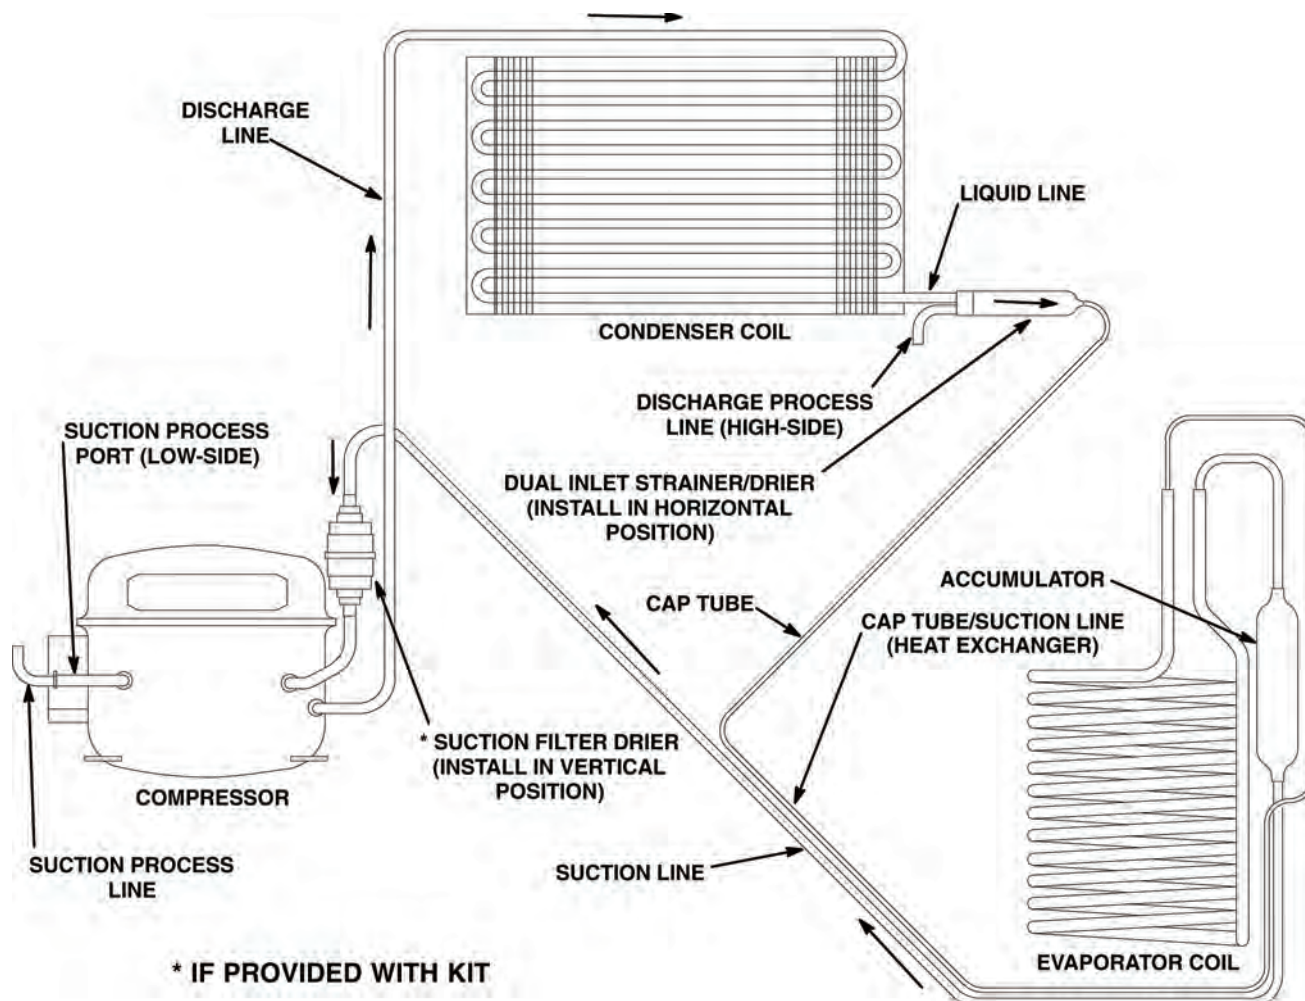

Figure 1.
2. At the compressor, install a line-tapping valve in the suction process line as shown in Figure 1.
3. At the dual inlet drier, install a second line-tapping valve on the discharge process line as shown in Figure 1.
(see Figure 1)
**NOTE: The suction filter/drier (if provided in the kit) must be installed in a vertical position in the suction line close to the compressor as shown in Figure 1.**